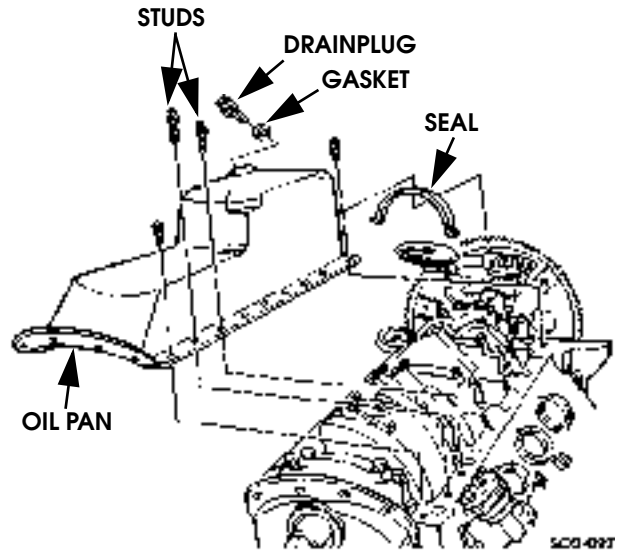

Figure 2-92: Oil Pan Removal
4. Remove pan rear seal (Figure 2-92). Discard seal.